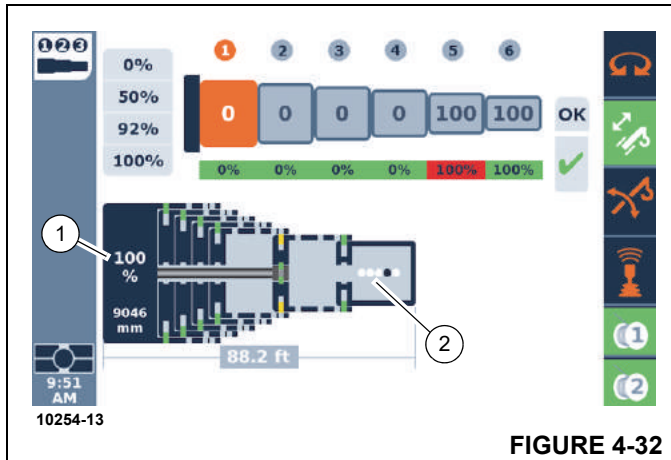
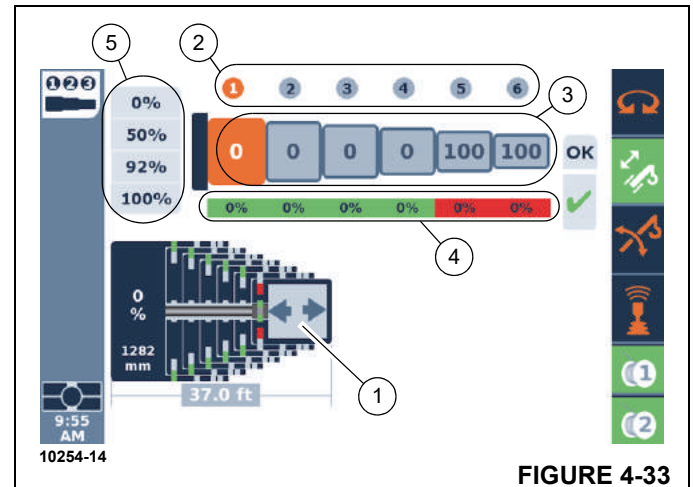

FIGURE 4-32
FIGURE 4-33
The Semi-auto screen of the operating display (refer to Figure 4-32) shows a graphic schematic near the bottom of the screen that indicates the current status of the boom computed by the crane control system (however the operator must continue to monitor the status of the physical boom to compare with this schematic). In Figure 4-32, there is a 100% (1) shown for the position of the telescoping cylinder (above the 9046 mm distance value). The graphical representation of the telescoping cylinder rod protrudes horizontally from the left end of the schematic (near item 1).
The example in Figure 4-32 shows the value of 9046 mm for the extension of the telescoping cylinder within the boom. This is the value from the precision length sensor. The example also shows a value of 88.2 ft as the overall boom length. The example shows the T6 boom section had been previously extended and locked at its 100% pinning location and the T5 boom section is being pinned at the 100% pinning location. The remaining boom sections are locked at their 0% pinning location.
As mentioned earlier, there are times when the crane control system is performing automated motions. The example in Figure 4-32 shows some moving dots (2) at the end of the schematic graphic. These dots, as well as the one dark dot cycling back and forth to the left and right, indicate that automated motions are occurring.
Figure 4-33 shows the same screen when the operator is able to control motions of the boom sections. In this case, there is a left and/or right pointing arrow (1) (instead of the dots shown in Figure 4-32). As is consistent with the schematic's orientation, the left arrow indicates retracting the boom, the right arrow indicates extending the boom. The control device (typically the controller in the standard controller option) would be moved to the left to retract the boom, and it would be moved to the right to extend the boom (while keeping in mind that only one boom section - the boom section the telescoping cylinder is locked to - would be moving).
The arrows (1, Figure 4-33), at some point in the telescoping process, will flash. The flashing is an indication that an unlocking or locking event will occur if the operator holds the controller in the direction of that arrow for at least 1 second. If this event begins, then the screen will change to the dots (as described for Figure 4-32) so that the operator knows that an automated motion or action is again occurring.
As seen in Figure 4-33, there are sets of numerical values at the top portion of the screen above the graphical schematic of the boom.
First, there is a set of values in a top row with values of 1 to 6 in circles (2, Figure 4-33). The 1 to 6 in the circles indicate the telescoping boom sections (or "tele sections"). The 1 is for the boom section that is the largest and closest to the base section. This is referred to as T1. This then proceeds from T2 to T6 for the 2 to 6 values.
The values under these boom section indication numbers represent the requested final boom configuration (or "target tele picture"). Figure 4-33 shows this set of values as 0-0-0-0-100-100 (3). This means that T5 and T6 are to be extended to its 100% pinning location, T2 is to be extended to the 100% pinning location, and T1, T2, T3, and T4 are to remain at the 0% pinning locations. It is vital that the operator understand that this requested final boom configuration is the first step in operating the pinned boom in the Semi-auto Mode. Everything the control system performs with the Semi-auto Mode is dependent on this requested final boom configuration.
Second, there is a set of percentage values shown under the requested final boom configuration values. In Figure 4-33, these are shown as 0%-0%-0%-0%-0%-0% (4). This represents the crane control system's currently computed actual boom configuration (or "actual tele picture"). This can be understood as what the boom looks like "now" (but as mentioned above the operator must be aware of the physical boom to compare to these values). As the boom is operated this computed boom configuration will change (just as the schematic graphic for the boom system will change on the display). But the operator should realize that the requested final boom configuration will not be changing as the boom is operated (it is the final destination for the boom motion).
- Using the ODM, the Enter button is used for the OK shown on the screen. This sends the requested data to the crane control system. If this configuration is considered acceptable, a check-mark will be shown below the OK as is seen in Figure 4-33. If the configuration is not considered acceptable, a red X will be shown instead of the check-mark (Figure 4-36). As an example, a requested final boom configuration of 0-100-0-100-0-100 is not allowed.
- Once the telescoping cylinder is considered locked to the boom section that is to be first moved (T6 in the current example Figure 4-33) by the crane control system, the boom section will be unlocked (this is an automated action).
- Once the boom section is unlocked, the telescoping direction arrows, as shown in Figure 4-33, will appear.
- When the T5 boom section is unlocked, the left and right telescoping direction arrows will appear again (as is shown in Figure 4-33).